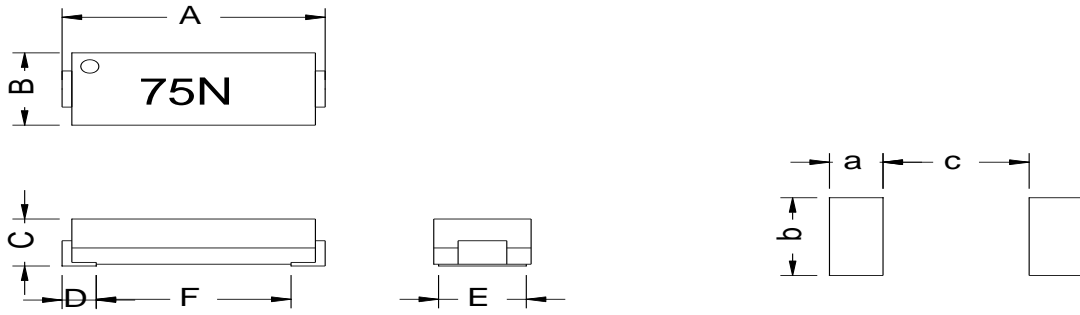

Fig.3-1
Dimensions and recommended PCB pattern for reflow soldering, please see Fig.3-1 and Table 3-1.
- ※4: Nominal DCR is measured from point a to point b. (see Fig. 3-1)